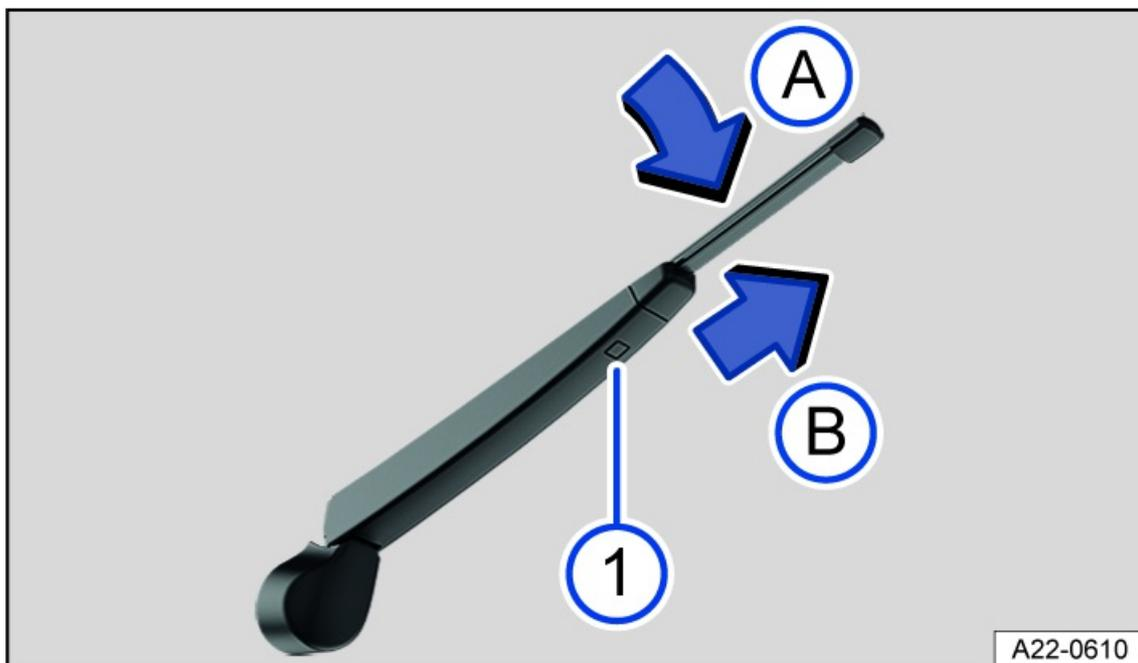

Fig. 148 Changing the rear window wiper blade.
① Wiper blade release button.
3. Press and hold the release button *fig. 148* ①.
4. Tilt the wiper blade toward the wiper arm *fig. 148* ② while removing it in the direction of the arrow ③. You may need to use more force to do this.
5. Slide a new wiper blade with the same length and design onto the wiper arm in the opposite direction to the arrow until it engages *fig. 148* ④. For this to work, the wiper blade has to be folded out *fig. 148* ②.